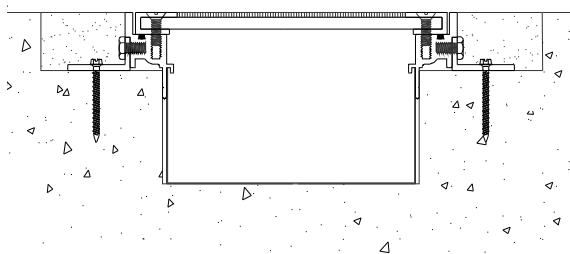

Figure 9
STEP 12. Install the tile into the cover plate recess at the time of installation of the finished floor (see Figure 9). Install the tile in accordance with the tile and adhesive manufacturers' instructions.